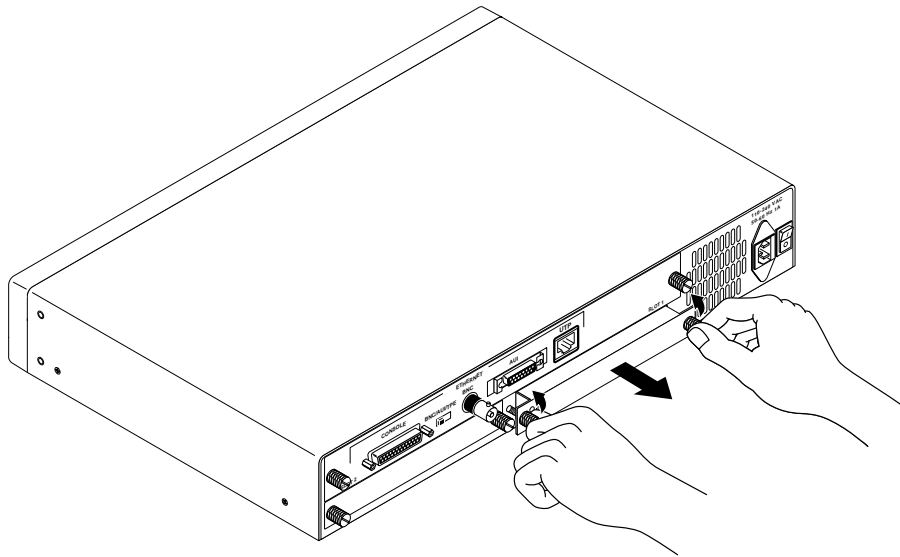

Figure 2-2 Removing a Face Plate
To remove the plate, loosen the captive screws and slide the face plate away from the slot, as shown in Figure 2-2.
- c Secure the module in the slot by tightening the captive screws as shown in Figure 2-2.